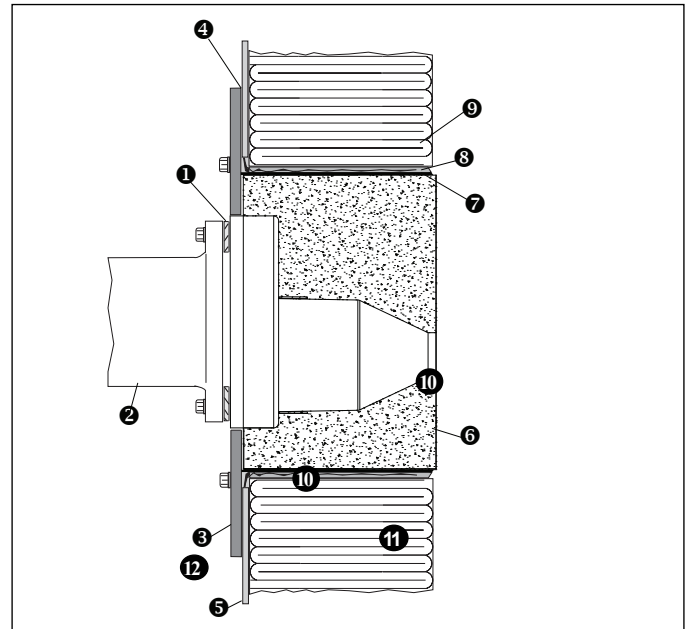
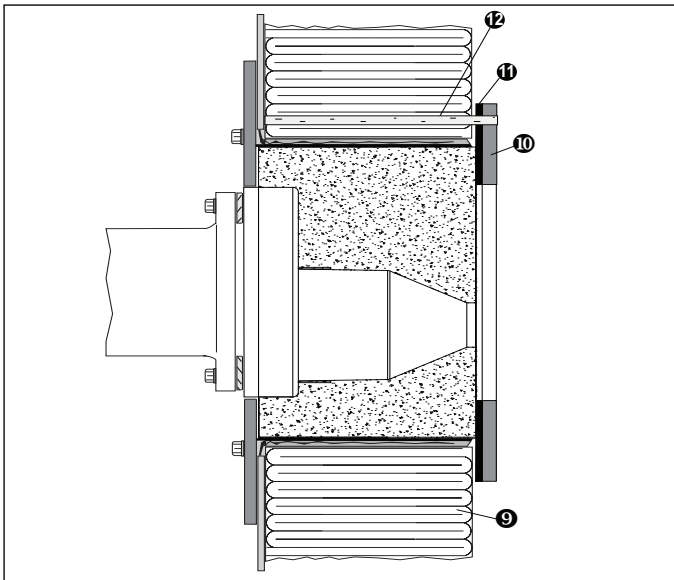

Figure 3.4 Fiber Lined Furnaces
Figure 3.5
(See Figure 3.4 and Figure 3.5)
- For applications exceeding 2200 °F (1200 °C) install a ceramic fiber board shield 11 suitable for the furnace design temperature as illustrated in Figure 3.5.
- Anchor the shield 11 to the refractory combustor ⑥ and the fiber lining ⑨ with a high temperature, air setting refractory cement 12 and ceramic anchoring devices 13 .